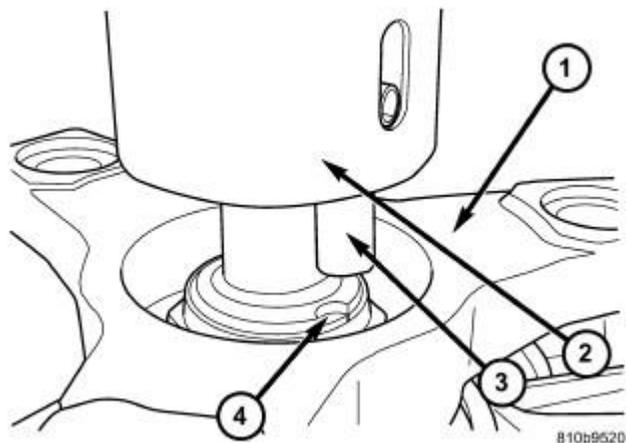

Fig. 103: Align Staking Tool
10. Rotate the Staking Tool (special tool #9078, Staking Tool) (2) until the alignment pin (3) engages the output shaft notch (4). Refer to **Fig. 103**.